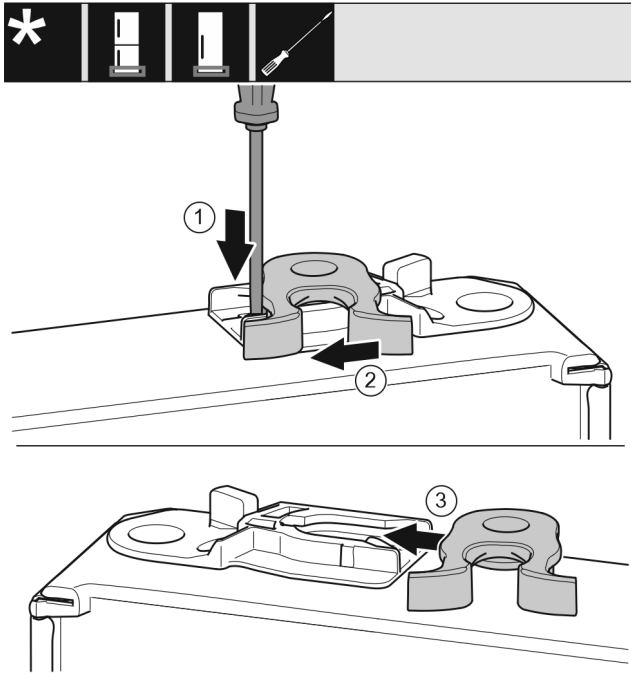

Fig. 20
- Use a slotted screwdriver to push the tab Fig. 20 (1) downwards.
- Pull the closing hook Fig. 20 (2) out of the guide.
- Insert the closing hook Fig. 20 (3) into the guide on the other side.